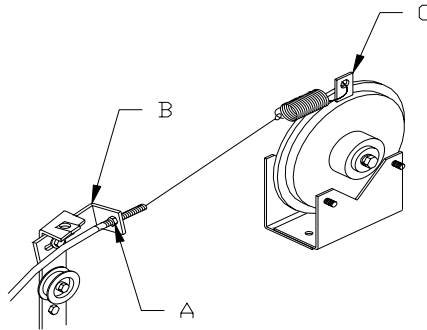

fig. 11
1. Remove belt guard and disconnect clutch control cable from spring attached to clutch engagement lever (item C, fig. 11).
3. Re-connect the clutch control cable and adjust the jam nuts (item A, fig. 11) forwards or backwards as necessary so that the lever does not pull backwards.
6. If more adjustment is needed, move the cable end support (item B, fig. 11) as necessary.